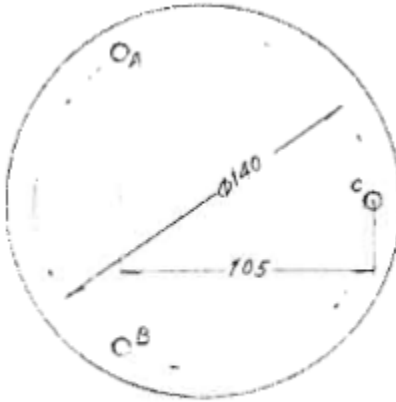

Fig. 2
Generally, the three angular adjustment screws (33) are not screwed into the body base plate (4) and the body base plate (4) is tightly pressed on the three spacer pillar (2) by the three socket head screw (32). The locations of the three angular adjustment screws (33) on the body base plate (4) are shown in Fig. 2. The pitch of these screws is 0.5mm. The adjustment processes of polishing the wedge (suppose the wedge angle is Θ) show as follows:
- (1) Polish the fixture without specimen until the entire surface of the chuck plate (24) is polished.
- (2) Screw in the three angular adjustment screws (33) until they contact the top surface of the spacer pillars (2).
- (3) Slightly unscrew the three socket head screws (32), and then turn the screw (33) at position C (See Fig. 2) to α° (degree) in clockwise, where $\alpha^\circ = 0.3665\theta''$. For example, if the required wedge angle is $30''$, the angle α should be $10^\circ .99$.
- (4) Tighten the three socket head screws (32) with a torque screw driver that will help to tighten these three screws with same torque.
- (5) Turn the fixture upside down and place the polished surface of the specimen (Assume one of the specimen surface has already been polished.) on the chuck plate (24) with the ridge of the wedge in AB direction. (See Fig. 2).
- (6) Remove the seal plug (27) if it is covered by the specimen. Block the screw holes that are not covered by the specimen on the chuck plate (24) by set screws (22).
- (7) Insert the greased vacuum tube (39) with the washer (38) into the fixture and connect the vacuum tube (39) to the vacuum pump.
- (8) Turn on the vacuum pump and polish the second surface of the specimen on the polishing plate of the polishing machine. As the entire surface is polished, the required wedge angle is achieved.